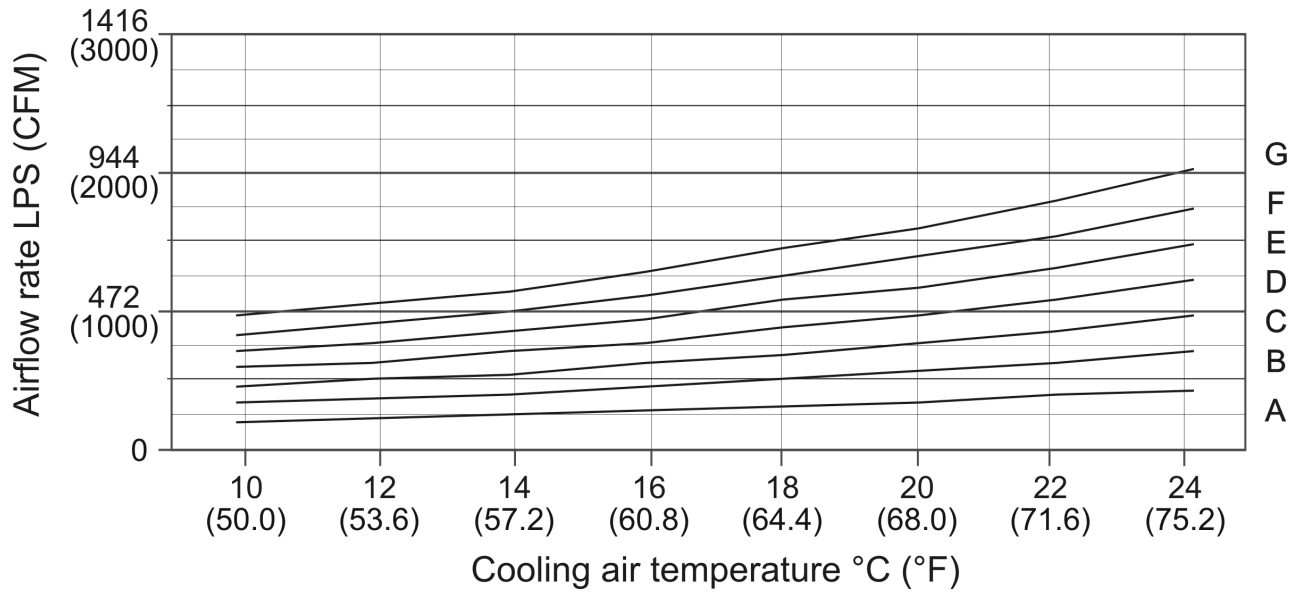

Figure 45. Airflow requirements for system cooling
- Using the appropriate reference from Table 63 (designated A through G), refer to Figure 45 on page 287 for the approximate air flow and temperature requirements for that configuration
- Refer to Figure 45 on page 287 for air flow and temperature requirements